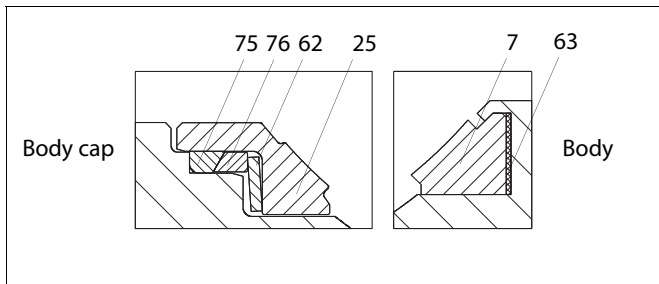

Fig. 26 H seat (2'')
- ❑ Place the back seal (63) into the body counterbore. Then place the seat (7) into the body counterbore, see Fig. 26.
- ❑ Place the back seal (75), back-up ring (76), spring (62) and the seat (25) into body cap, Fig. 26.